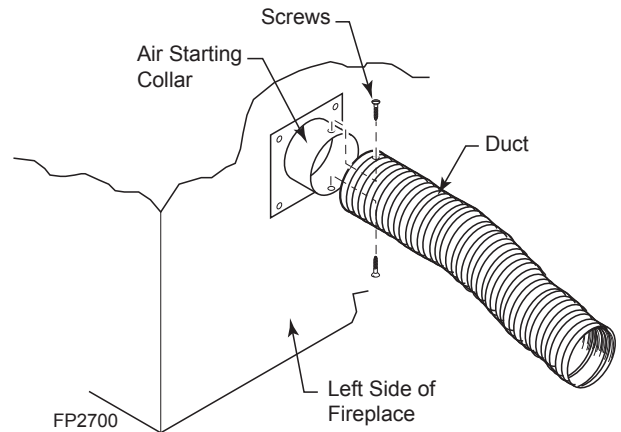

Figure 17 -
4. Attach outside duct to starting collar with duct clamp or screws. *Figure 17*
6. Select and cut a piece of duct long enough to attach to the fireplace and stick out at least 3" beyond the face of the wall to which the AK4 inlet air vent will be attached. Cut duct with a standard pocket knife. *Figure 17*